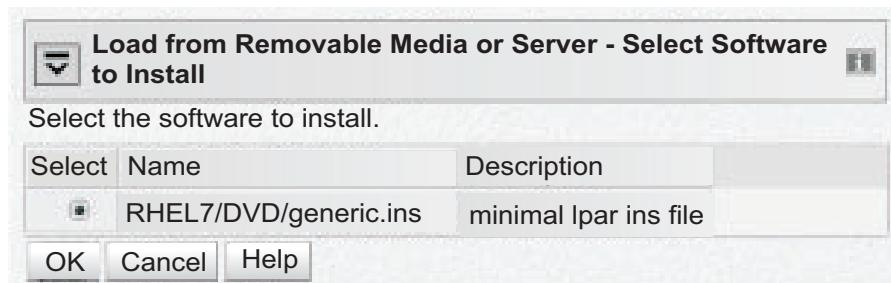

Figure 69. Select Software to Install panel
5. Click **Continue** to display the Select Software to Install panel (Figure 69).